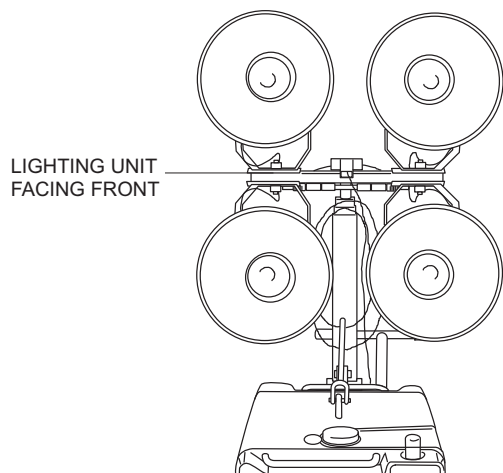

Figure 17. Lighting Unit Facing Front
2. Set the lighting units facing the front (Figure 17).